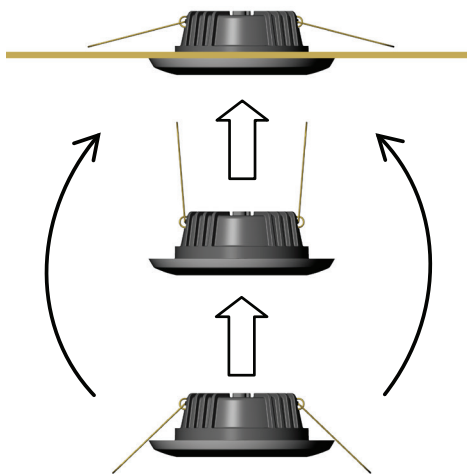

Figure 2
A. Spring-Mount Version (Small or Large): With trim ring attached, gently bend back the mounting springs on the Sigma and insert the spring tips into the cutout hole in the mounting surface (see Figure 2).